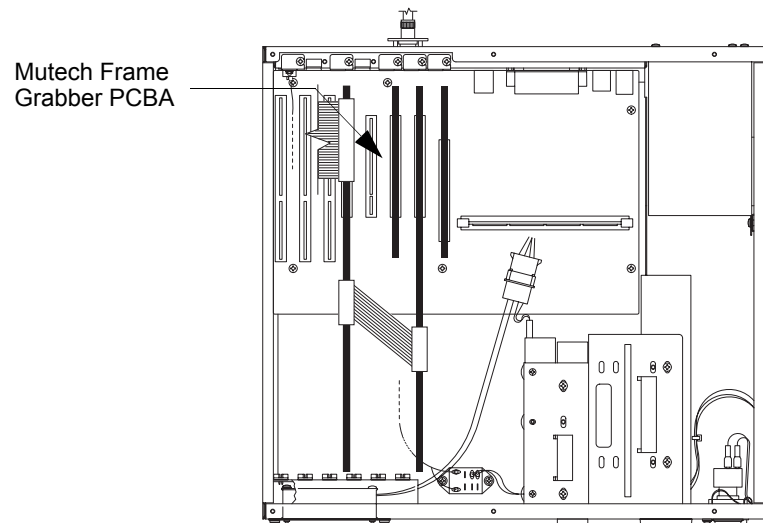

Figure 9-24 Location of the Mutech Frame Grabber PCBA
4. Note the orientation of all cables prior to their removal; see Figure 9-24.